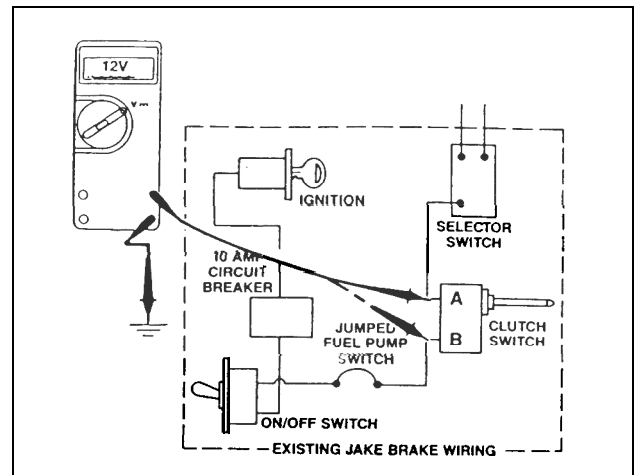

FIG. 1.1.34
**Correction:** Check that connections are tight on the clutch switch terminals. Check that there is no corrosion on connectors. Clean or replace as required. Check the clutch switch. With ignition ON and the Jacobs ON/OFF switch ON, measure the voltage at "A" (Fig. 1.1.34). VOM should read +12.5 VDC. At position "B" with switch closed, VOM should measure +12.5 VDC; with switch open, 0 VDC at position "B".